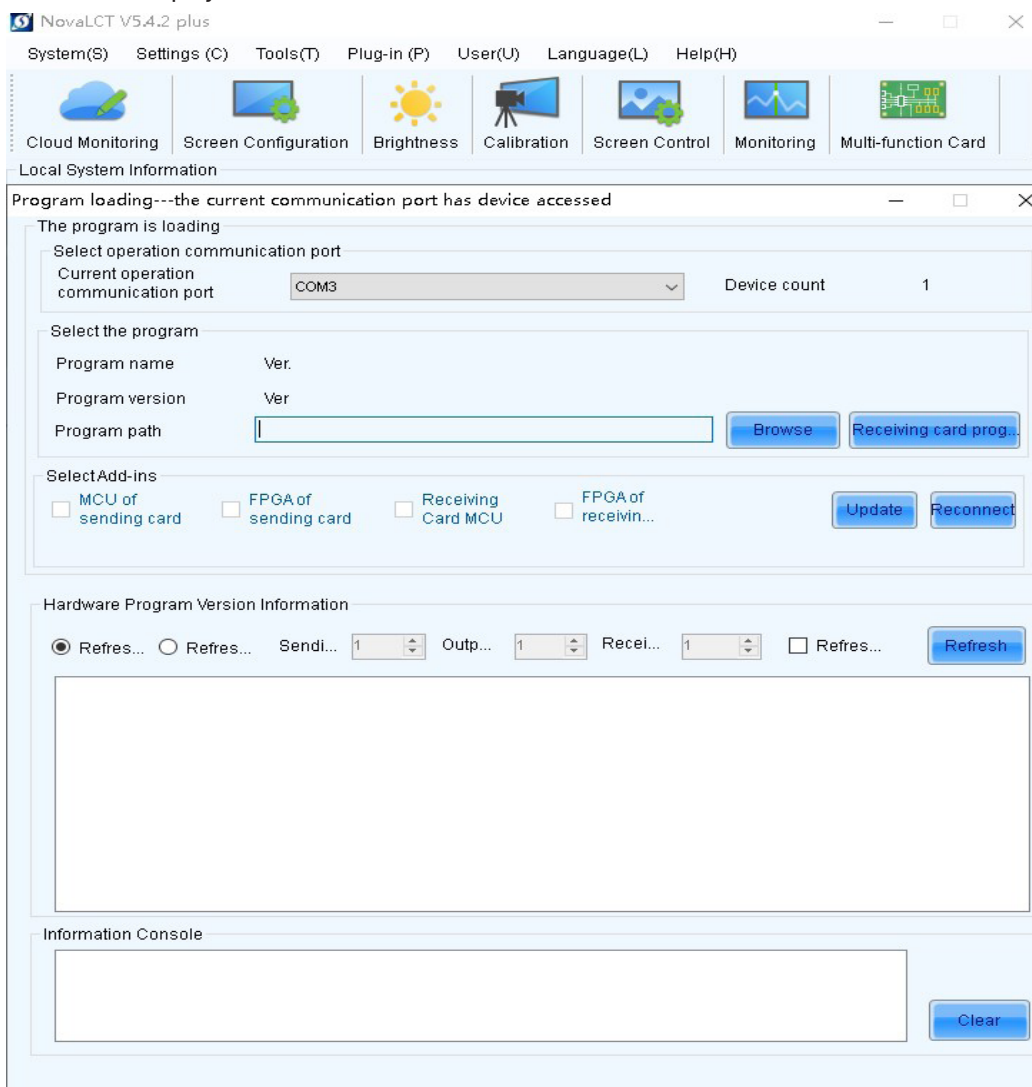

Figure 1-4
4. A dialog box will then appear as shown in Figure 1-4. Select the Communication port for operation. Click Reconnect if you need to reconnect the LED display controller.